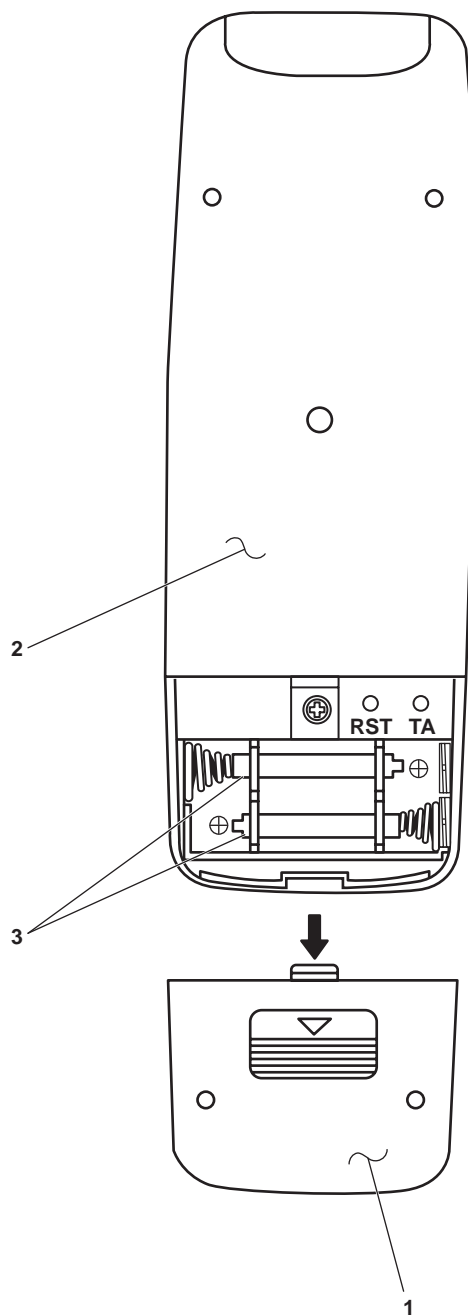

Figure 26. Radio Room Rooftop Air Conditioning Unit Remote Battery Installation
5. Remove the battery cover (figure 26, item 1) from the rear of the radio room rooftop air conditioning unit remote (figure 26, item 2).
6. Install/verify that two 1.5 volt dc AAA alkaline batteries (figure 26, item 3) are in the radio room rooftop air conditioning unit remote (figure 26, item 2).
7. Install the battery cover (figure 26, item 1) on the rear of the radio room rooftop air conditioning unit remote (figure 26, item 2).